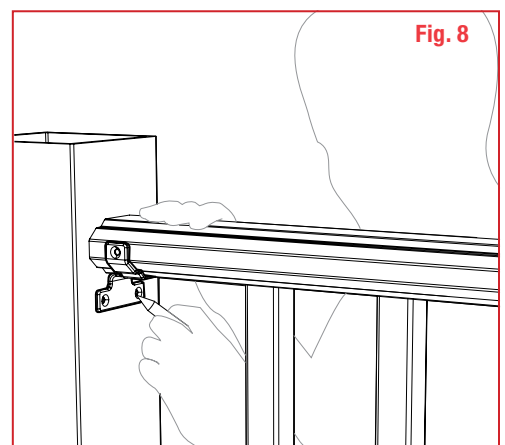

Fig. 8
**10** Align the top rail over the Balusters, and install the Balusters one at a time into the prerouted holes. Ensure the top rail is fully nested, level, and parallel with the bottom rail. Position the top rail brackets on the rail, center the bracket on the post, and mark the bracket locations on each post. When using Multi Angle Brackets, center the angled rail onto the post. Mark the Mutli Angle Bracket location in relation to the centered rail. (Fig. 8)